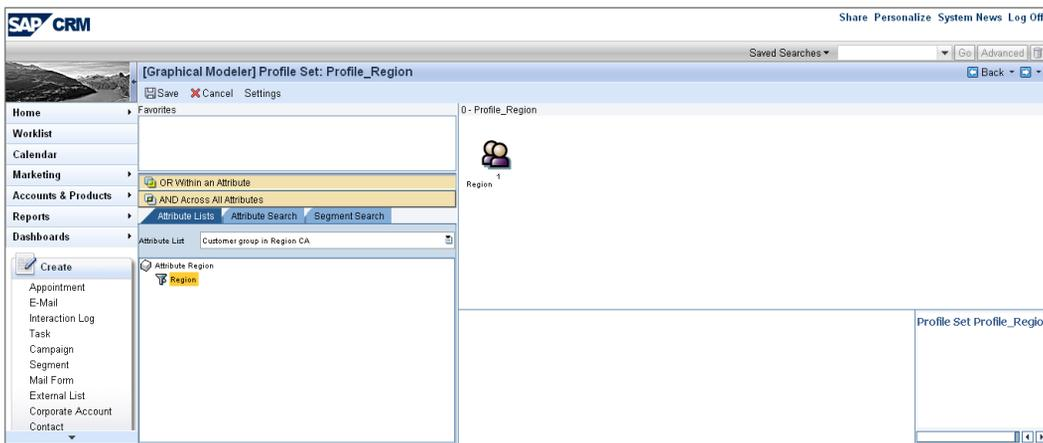

Figure 5.52 Moving the Filter to the Staging Area
10. Drag and drop the filter in the staging area, as shown in Figure 5.52.